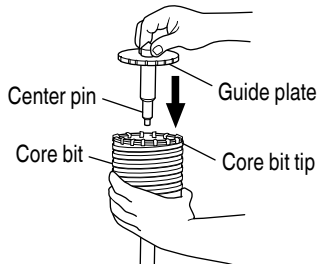

Fig. 32
- (3) Insert the center pin into the guide plate until it stops.
- (4) Engage the guide plate with the core bit, and turn the guide plate to left or right so that it does not fall even if it faces downward. (Fig. 32)